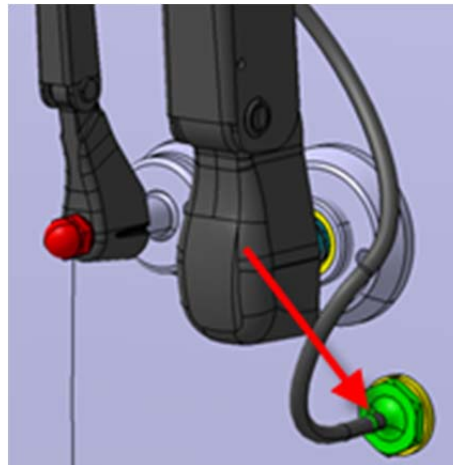

FIGURE 3
1. Disconnect the windshield washer liquid hoses (FIGURE 3).